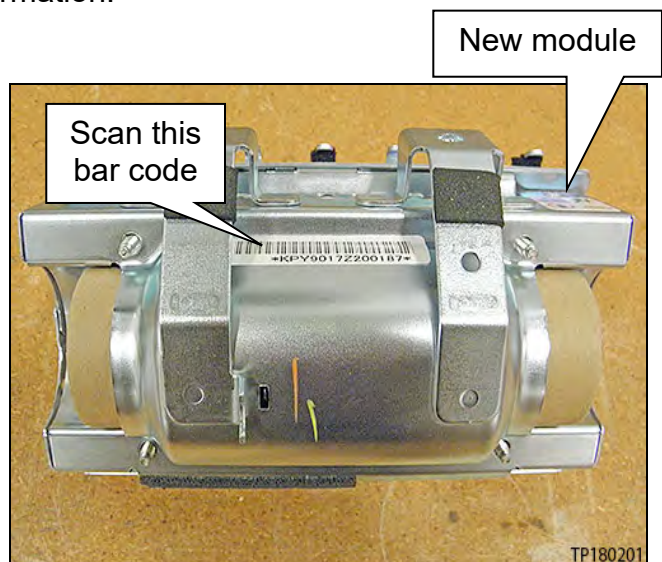

Figure 9
11. Use the quick scan tool to scan the bar code (serial number) on the new module (see Figures 9 and 10).